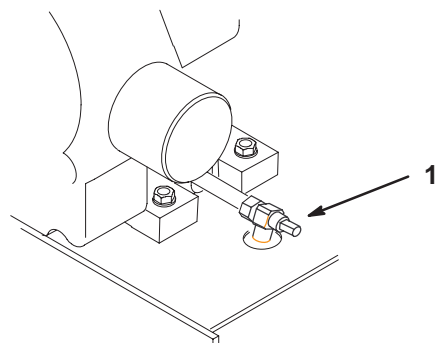

Figure 34
3. Place a pan below the oil drain. Rotate oil drain valve to allow oil to drain (Fig. 34).